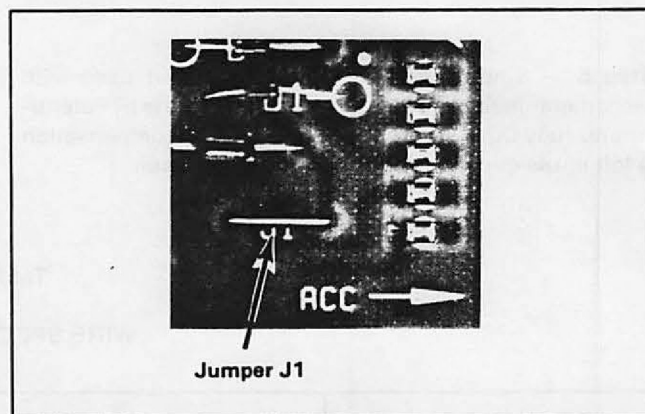

Figure 5.12 — Jumper J1
**Step 3** — If an AUTO/MANUAL selector switch is used, it is necessary to remove jumper J1 on the Module. (Refer to Figure 5.12.) If, however, the controller is designed to run automatically **without** manual speed control, J1 remains in place. In addition, remove jumper J4 on the Regulator Module if an AUTO/MANUAL selector switch is used.